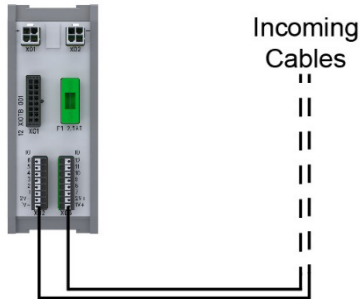

Fig. 6-3: Control inputs/outputs to XIOTB
2. Connect the incoming cables of the control inputs/outputs to the terminals XG2 and XG3 of the terminal block XIOTB (→Fig. 6-3 and chapter 6.3.1, page 44).